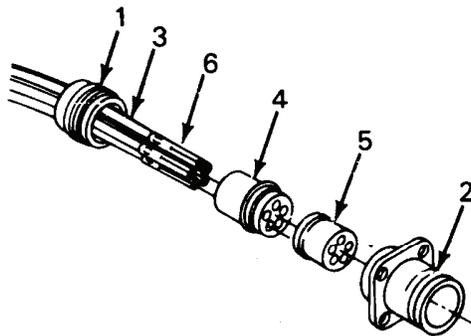

Figure 1. Connector Layout
1. Remove nut (Figure 1, Item 1).